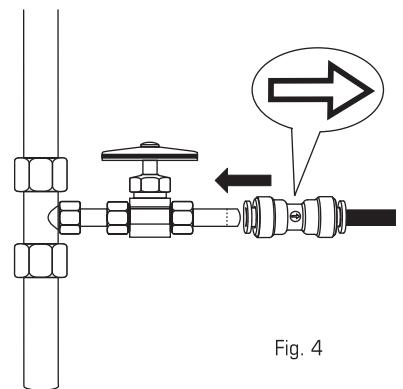

Fig. 4
4. **Insert** the tube from the cold water supply to the screen side of the Supply Connector attached to the red tube of the pressure regulator assembly, a-c, (Fig. 1), until it meets the line or the line disappears. Arrow on supply connector should point away from tap water tee (Fig. 4).